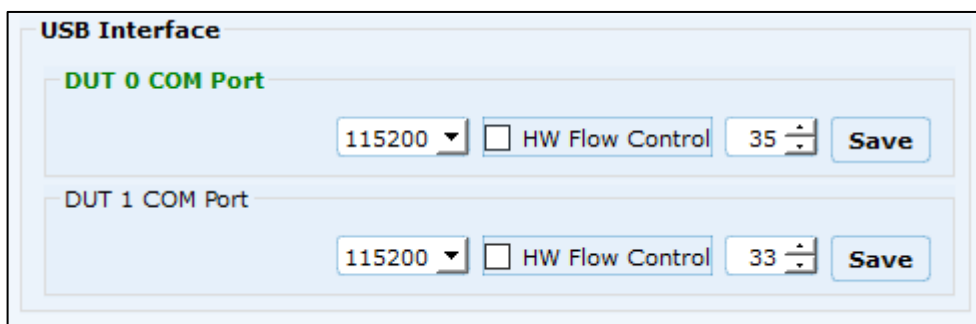

Figure 15: Virtual comport setting in RTX2254 GUI (Pro-DK connected to DUT0)
- RS232 COM port: the virtual COM port, e.g. COM35 (Figure 15).
- Baud Rate: 115200 (Figure 15)
- HW Flow Control: None (Figure 15)